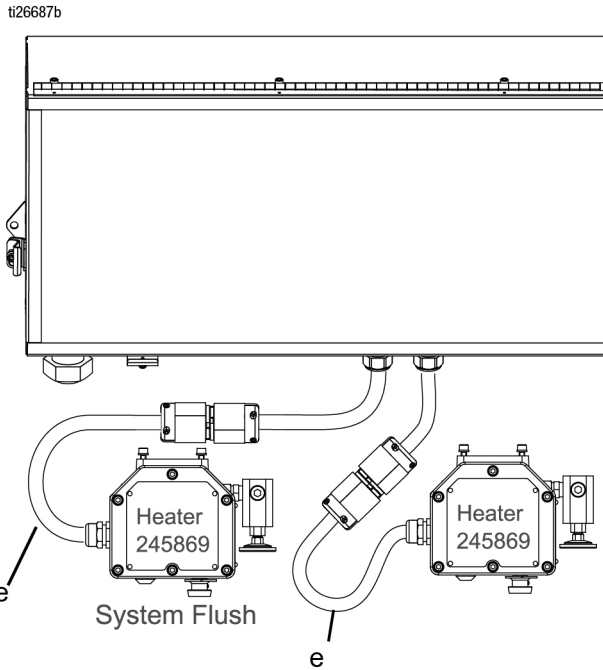

FIG. 16
- e. **For Non-Hazardous Location Models,** Connect heater power cables (e) for the tank heater and the flush heater. See FIG. 16.